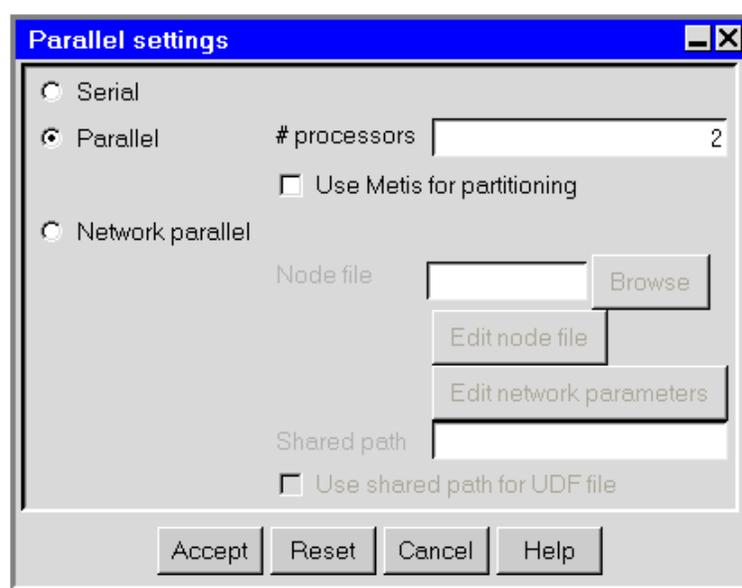

Figure 27.11.6: The Parallel settings Panel
5. Specify whether you want the solution to be run in serial or in parallel. To run the solution in serial, keep the default selection of **Serial** in the **Parallel settings** panel (Figure 27.11.6). See Section 27.11.3 for details about running a solution in parallel.
You will set up all the parameters for the parallel version of the solver in the Parallel settings panel (Figure 27.11.6).
To run Airpak on a dedicated parallel machine (i.e., a multiprocessor workstation), select Parallel in the Parallel settings panel (Figure 27.11.6) and specify the number of processors to be used in the # processors field.
To run **Airpak** on a network of computers, select **Network parallel** in the **Parallel settings** panel (Figure 27.11.6). You must specify the name of the node file in the **Node file** text entry field. You can enter your own filename, which can be a full pathname to the file (beginning with a / character on UNIX or a drive letter on Windows) or a pathname relative to the directory in which **Airpak** was started. Alternatively, you can choose a filename by clicking on the **Browse** button located next to the **Node file** text field and then selecting the file in the resulting **Node file for parallelism** dialog box.